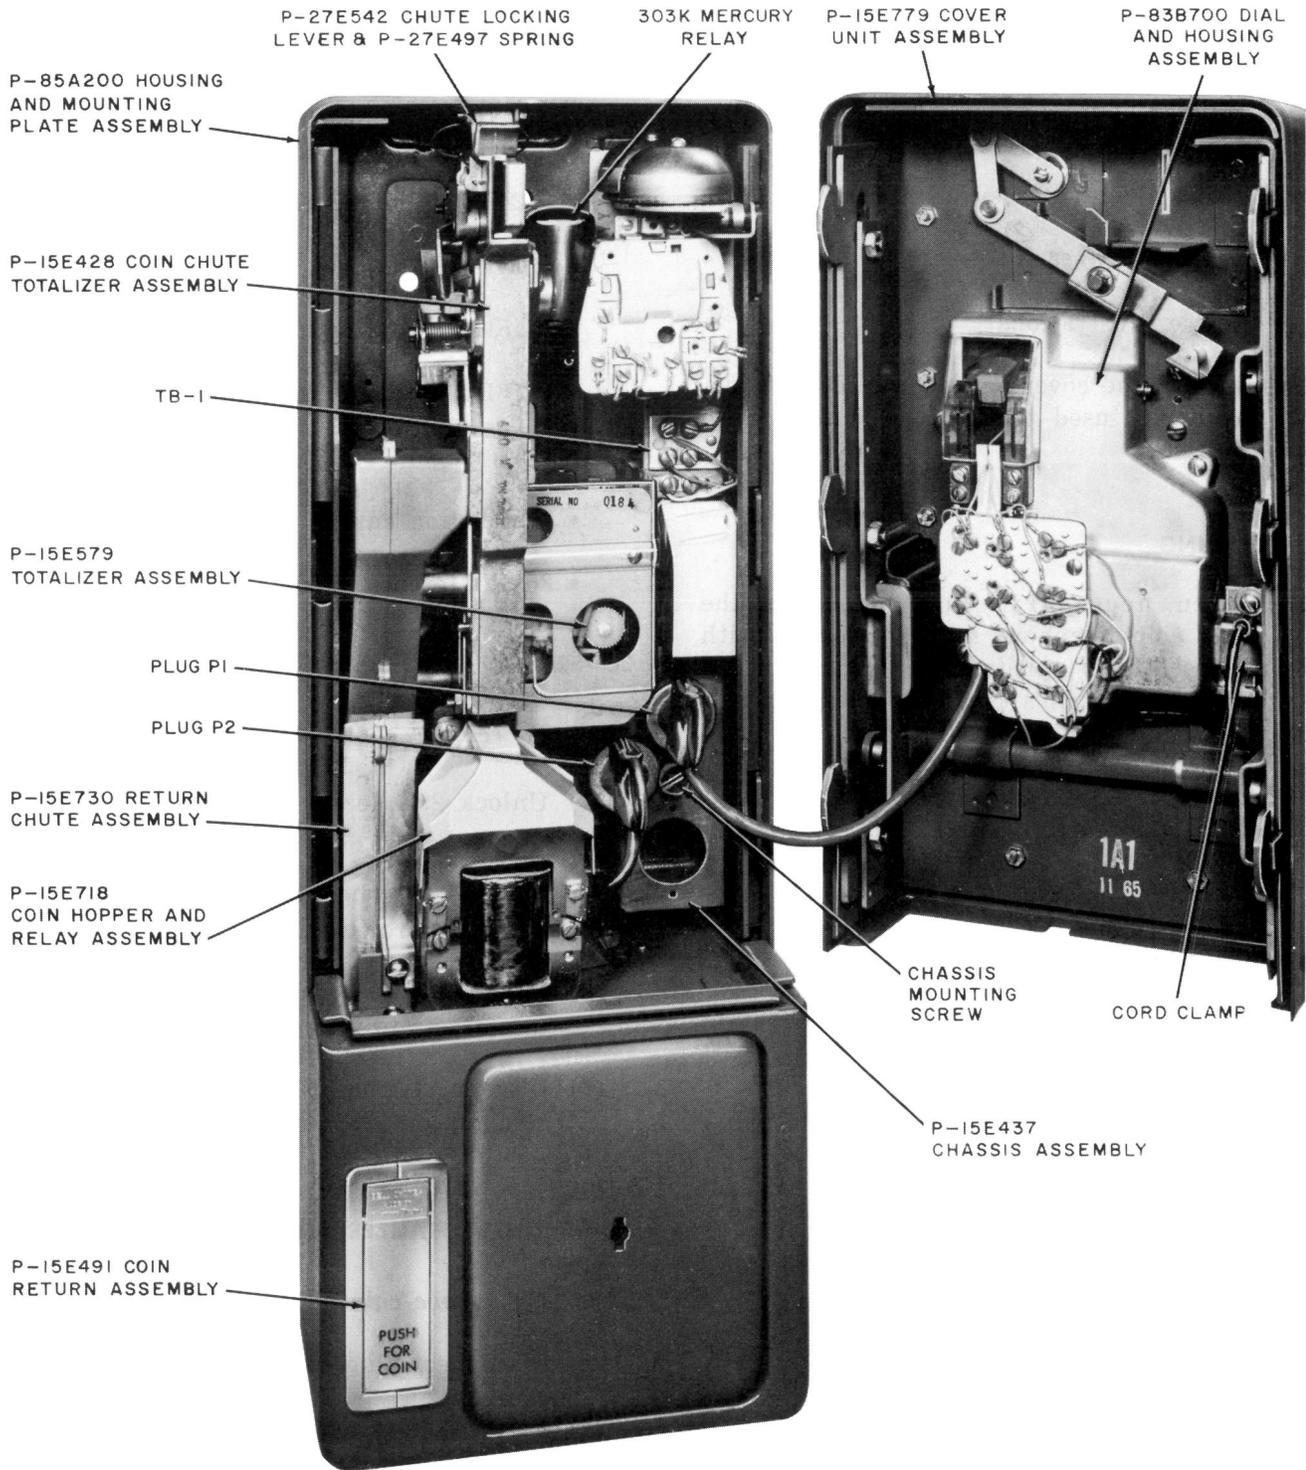

Fig. 1 — Assembly of Parts
- (1) Unlock 29A lock.
- (2) Release locking mechanism with 719A tool (see Section 506-101-201) by turning tool 1/8-turn counterclockwise.
- (3) Slide cover forward about 3 inches to obtain access to plug P1.
- (4) Disconnect plug P1 (Fig. 1) by pulling straight out as cover is carefully lifted off.
- (1) Disconnect plug P2 (Fig. 1).
- (2) Release chute locking lever and spring.
- (3) Lift spring out of groove in coin chute.
- (4) Tilt top of coin chute forward and lift out.
- (1) Remove coin chute-totalizer assembly (3.03).
- (2) Disconnect black and yellow leads from coin relay and carefully pull leads through guide hole on coin hopper.
- (3) Loosen chassis mounting captive screw (Fig. 1).
- (4) Pull chassis assembly out at bottom and slide down to remove.